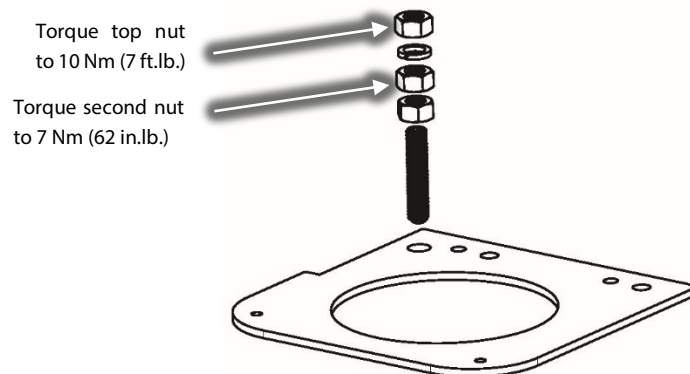

Figure 33 – Ground Nuts
38. Reroute and connect the Soft Start ground wire and other ground cables to the ground post on the compressor housing at 3 phase connection. Refer to Figure 33 (Ground Nuts) for the torque specifications.